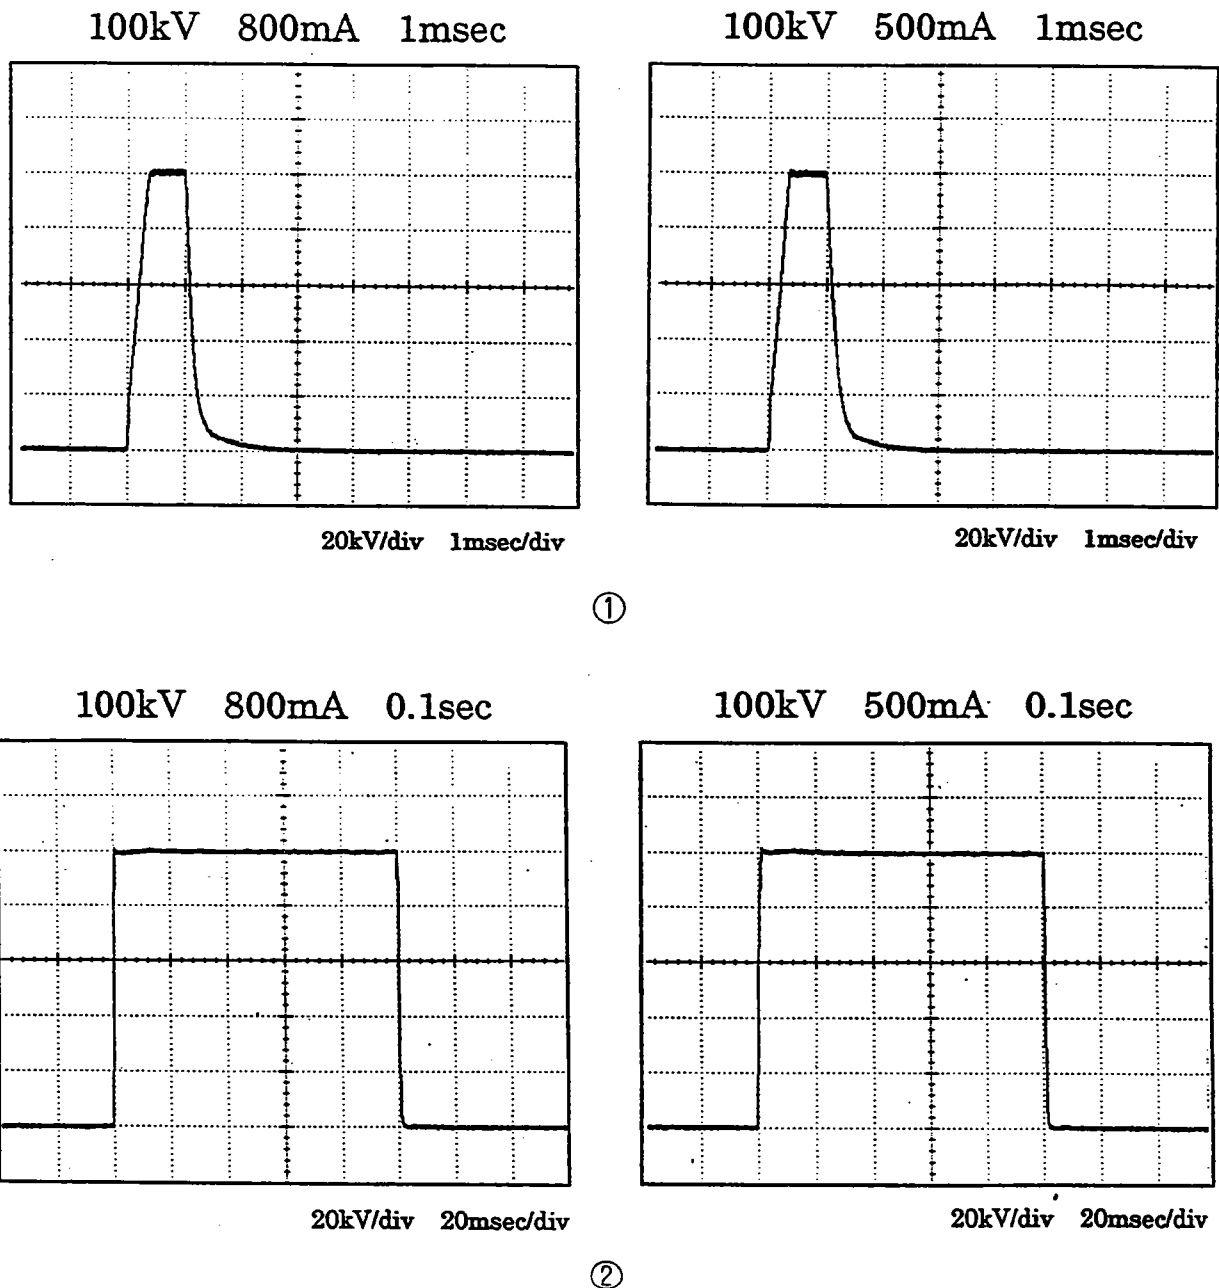

Fig. 3.1.5 Examples of tube voltage waveform
Fig. 3.1.5 shows examples of the tube voltage waveform. ① shows short-time characteristics and ② shows long-time characteristics for different tube currents.